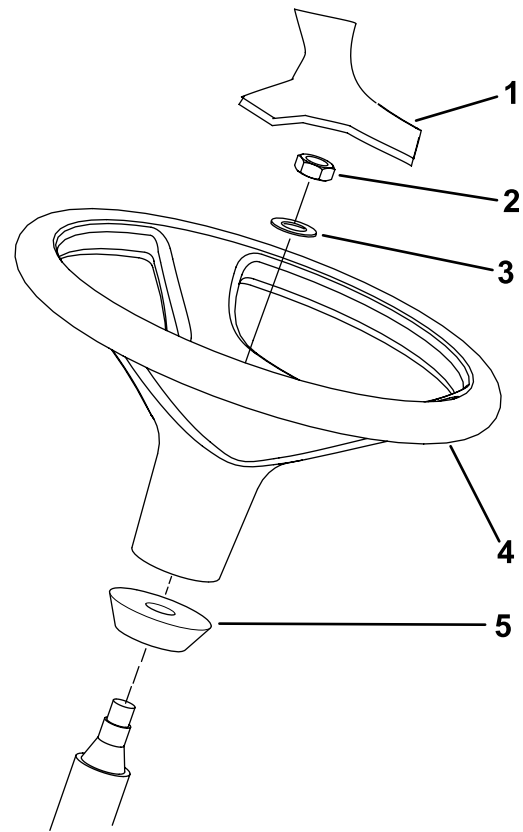

Figure 12
1. Remove the steering wheel from the shipping skid (Figure 12).
**Note:** Ensure that the foam collar remains on the steering shaft (Figure 12).
3. Slide the steering wheel and washer onto the steering shaft (Figure 12).
5. Mount the cover to the steering wheel (Figure 12).